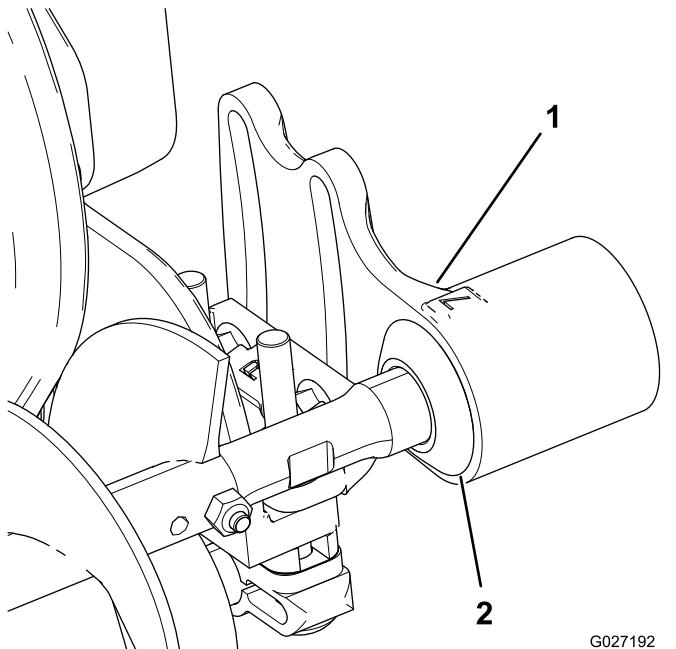

Figure 7
- Slide the excluder seal outward until the lip seals are in light contact with each bearing housing (Figure 7).